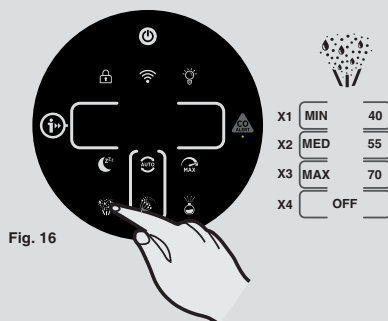

Fig. 16
**Humidifier Function: [Fig. 16]**